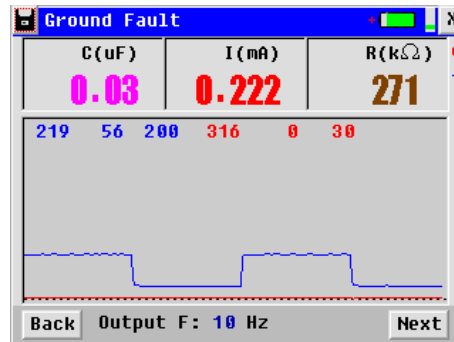

Fig 3.2.3.1
- 5) Clamp one current detector of signal receiver around output terminal (red testing lead like Fig 3.2.3.1.1) and keep it still for a while.